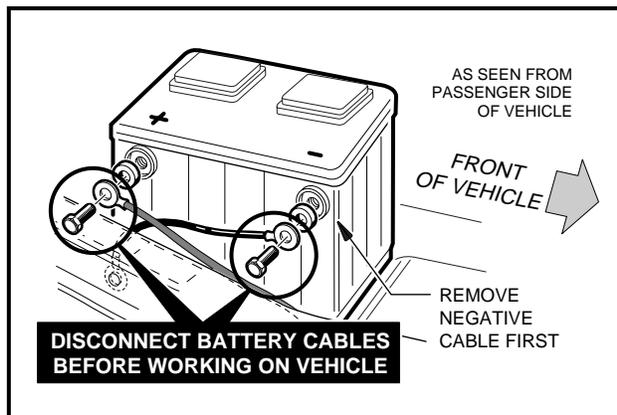

Figure 1-1 Gasoline Vehicle
- DISCONNECT BATTERY CABLES, NEGATIVE (-) FIRST (**FIGURE 1-1**).